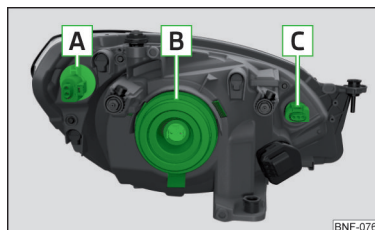
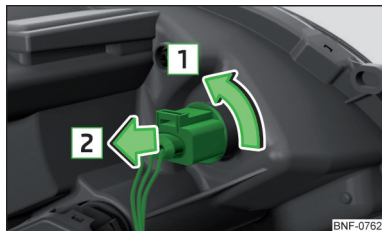
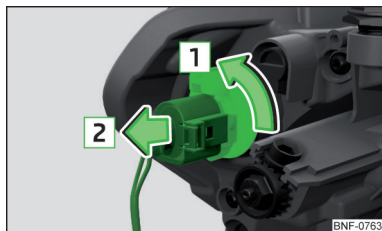

Fig. 141
Fig. 143
Fig. 144
Bulb arrangement » Fig. 141
- Turn the housing containing the bulb **C** » Fig. 141 on page 122 as far as the stop in the direction of the arrow **1** » Fig. 143.
- Turn the housing containing the bulb **A** » Fig. 141 on page 122 as far as the stop in the direction of the arrow **1** » Fig. 144.